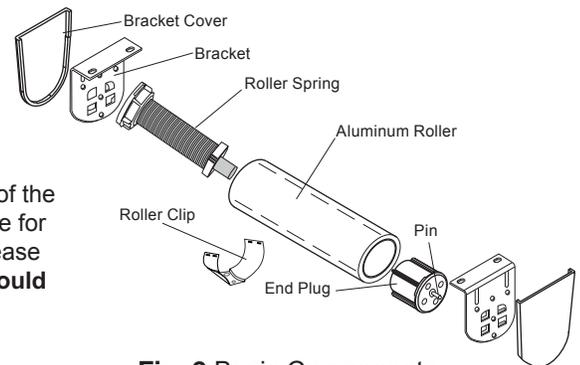

Fig. 2 Basic Components
**Basic Components** are shown in Fig. 2.